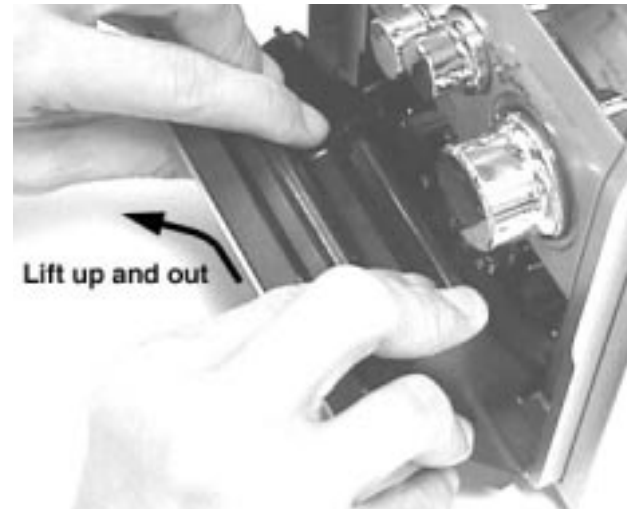
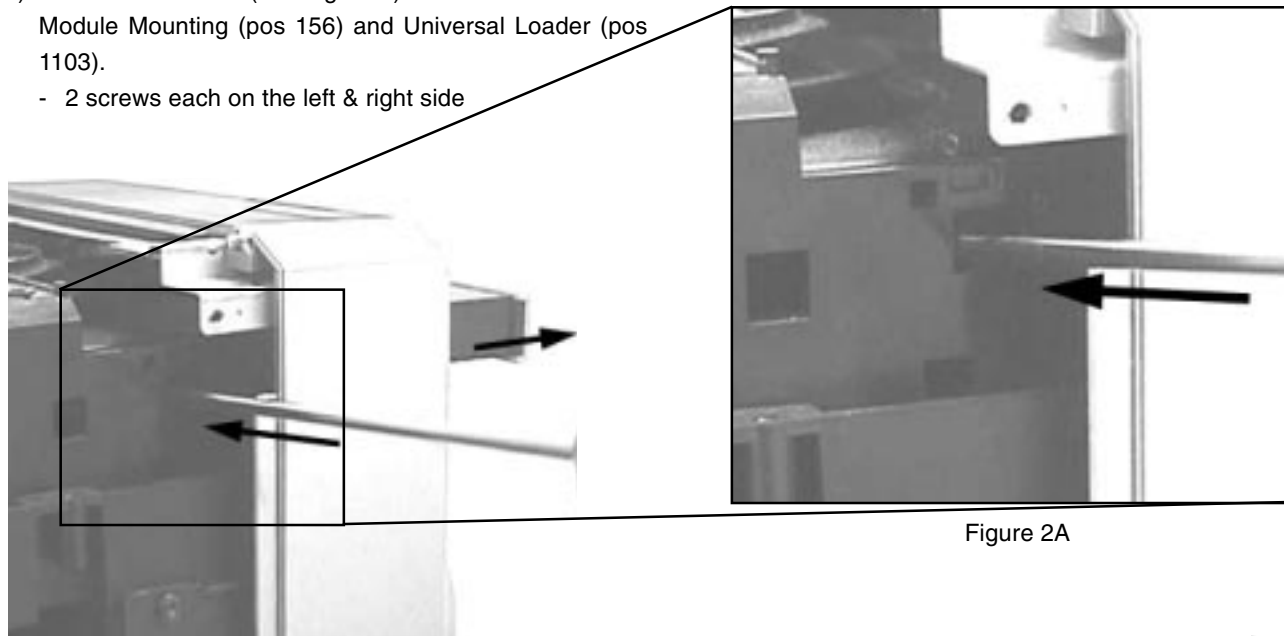

Figure 1
Figure 2A
- 1) Remove the Cover Cassette (pos 150) in the direction as shown in Figure 1.
- 2) Loosen 4 screws to remove the Cover Top (pos 240) by sliding it out towards the rear before lifting up.
- 3) Loosen 2 screws each to remove the Panel Left (pos 180) and Panel Right (pos 181). The Panels are removed by sliding it towards the rear and outwards.
- 4) Use a screw driver to give a push in the direction as shown in Figure 2 and Figure 2A to unlock the Loader Tray before sliding it out.